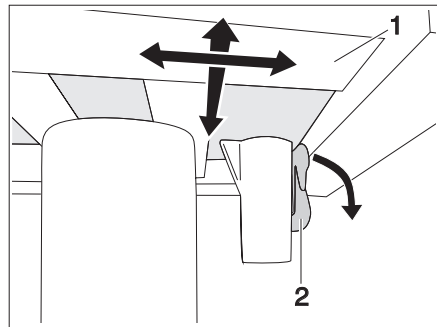

Fig. 56 Lock single-column table (locked)
- ▶ Push the locking lever (Fig. 56,2) down.
- ▶ Move the table-top (Fig. 56,1) to the desired position.